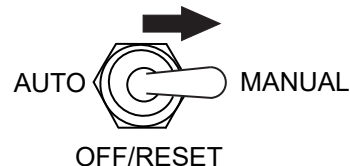

Figure 102. Auto Start/Stop Switch (Manual Position)
9. Place the Auto Start/Stop Switch (Figure 102) in the "Manual" position to start the engine.